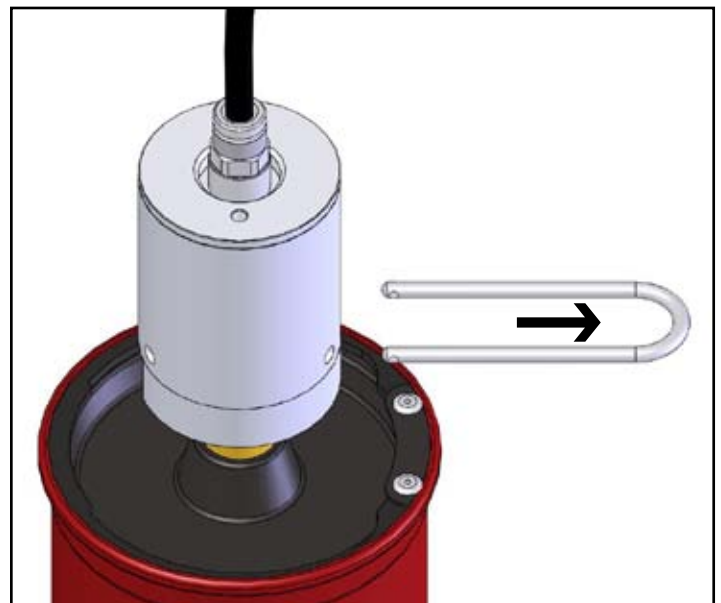

Fig 7: Removal of securing element ⑥
After completing all installation work and checking the extinguishing system for leaks, the securing elements ⑥ of all extinguishing generators in the fire extinguishing system are to be removed (fig 7).